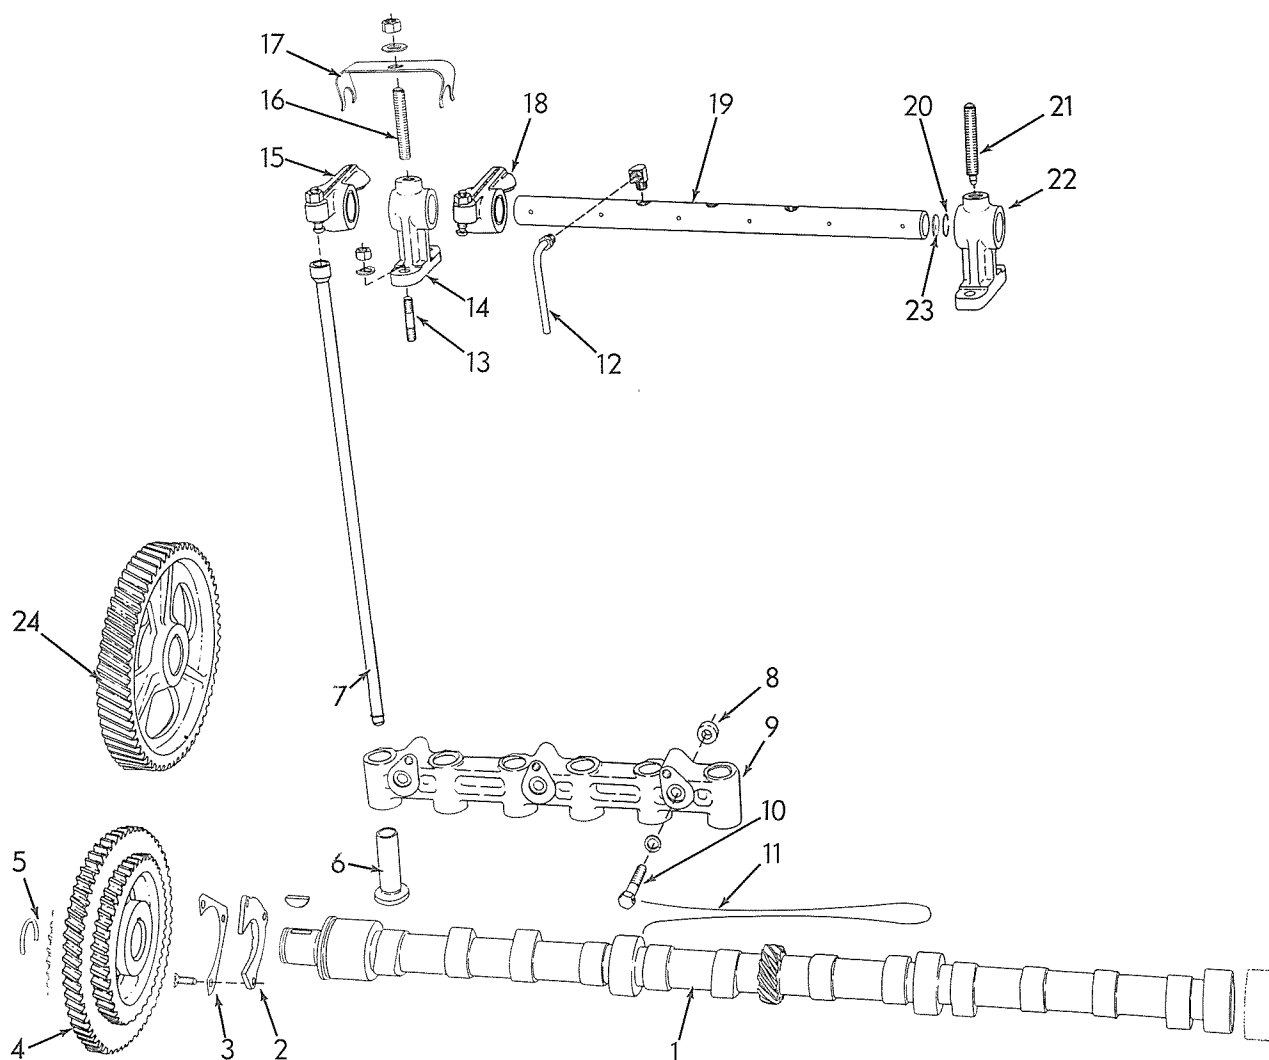
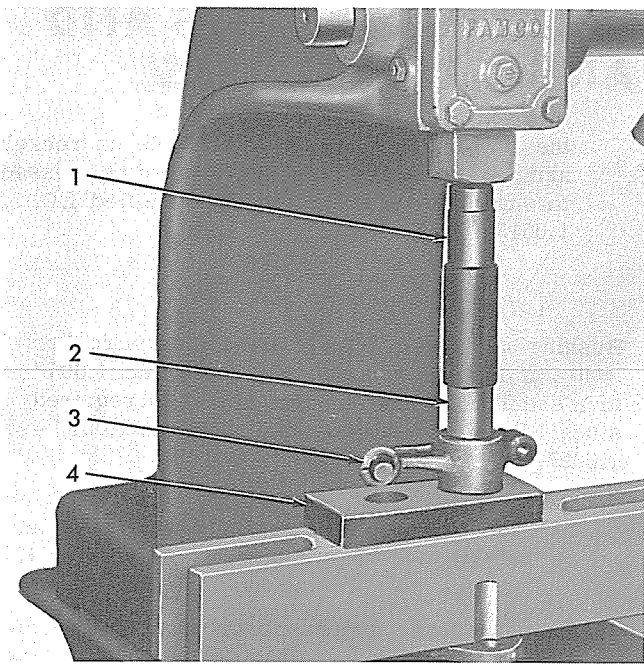
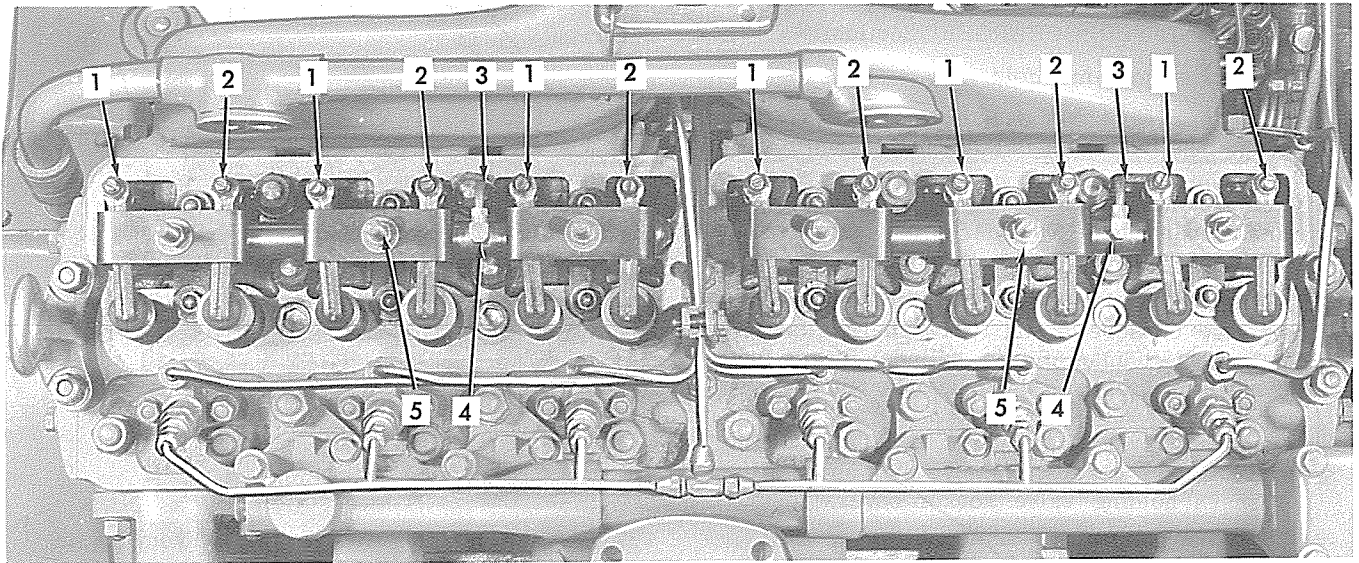

Fig. 2 — Valve Operating Mechanism Details
Fig. 5 — Installing Rocker Arm Bushing
Fig. 7 — Rocker Arm Position and Valve Location
2. Remove nuts and lockwashers attaching rocker shaft brackets Fig. 2 (14) (22) to cylinder head and remove rocker shaft brackets, shafts, and rocker arms as an assembly.
3. Remove rocker arm shaft oil over-flow tube (12) and elbow from each rocker arm shaft.
4. Remove nut and washer from rocker arm shaft retaining screw Fig. 7 (5) and remove screw. Remove nuts and washers from rocker cover studs, Fig. 2 (16).
5. Remove rocker arm retaining spring clips (17) and slide rocker arms (15) (18) and brackets (22) (14) from shafts (19).
6. Inspect bushings inside rocker arms for wear. Normal clearance between shaft and bushing is .001" - .0025" and must not exceed .005". If bushings are excessively worn, install new bushings, Fig. 5. After a new bushing is installed, a 1/8" oil hole must be drilled through
When installing rocker arms and brackets, make sure exhaust valve rocker arms and intake valve rocker arms are installed in their proper positions as shown in Fig. 7. Make certain rocker arm shafts are positioned so that oil holes for rocker arm bushings are nearest
3. Install oil overflow tube elbows, Fig. 7 (4) in rocker arm shafts, and install oil overflow tubes (3).